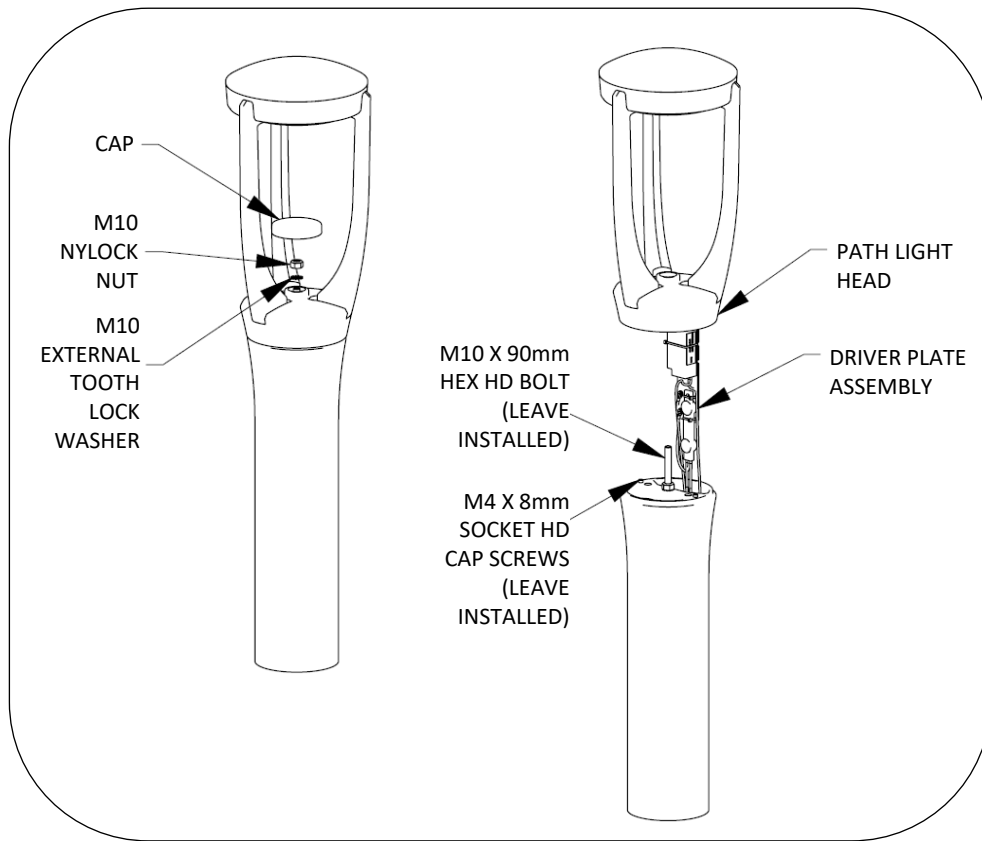

FIG. 4 – DISASSEMBLY / REASSEMBLY
9. Remove cap by twisting from light head as shown in Fig. 4. Set aside for later use.
10. Remove nut and washer from center bolt as shown in Fig. 4. Set light head and driver aside on protective padding. Do not disconnect driver from light head. Leave center bolt and nut installed. Leave side socket head cap screws installed. These screws prevent light head rotation when installed.
14. Install light head onto pathlight body, aligning notches on base with preinstalled socket head cap screws, see Fig. 4. Secure with external tooth lock washer and hex nut.
15. Reinstall cap onto light head, see Fig. 4.